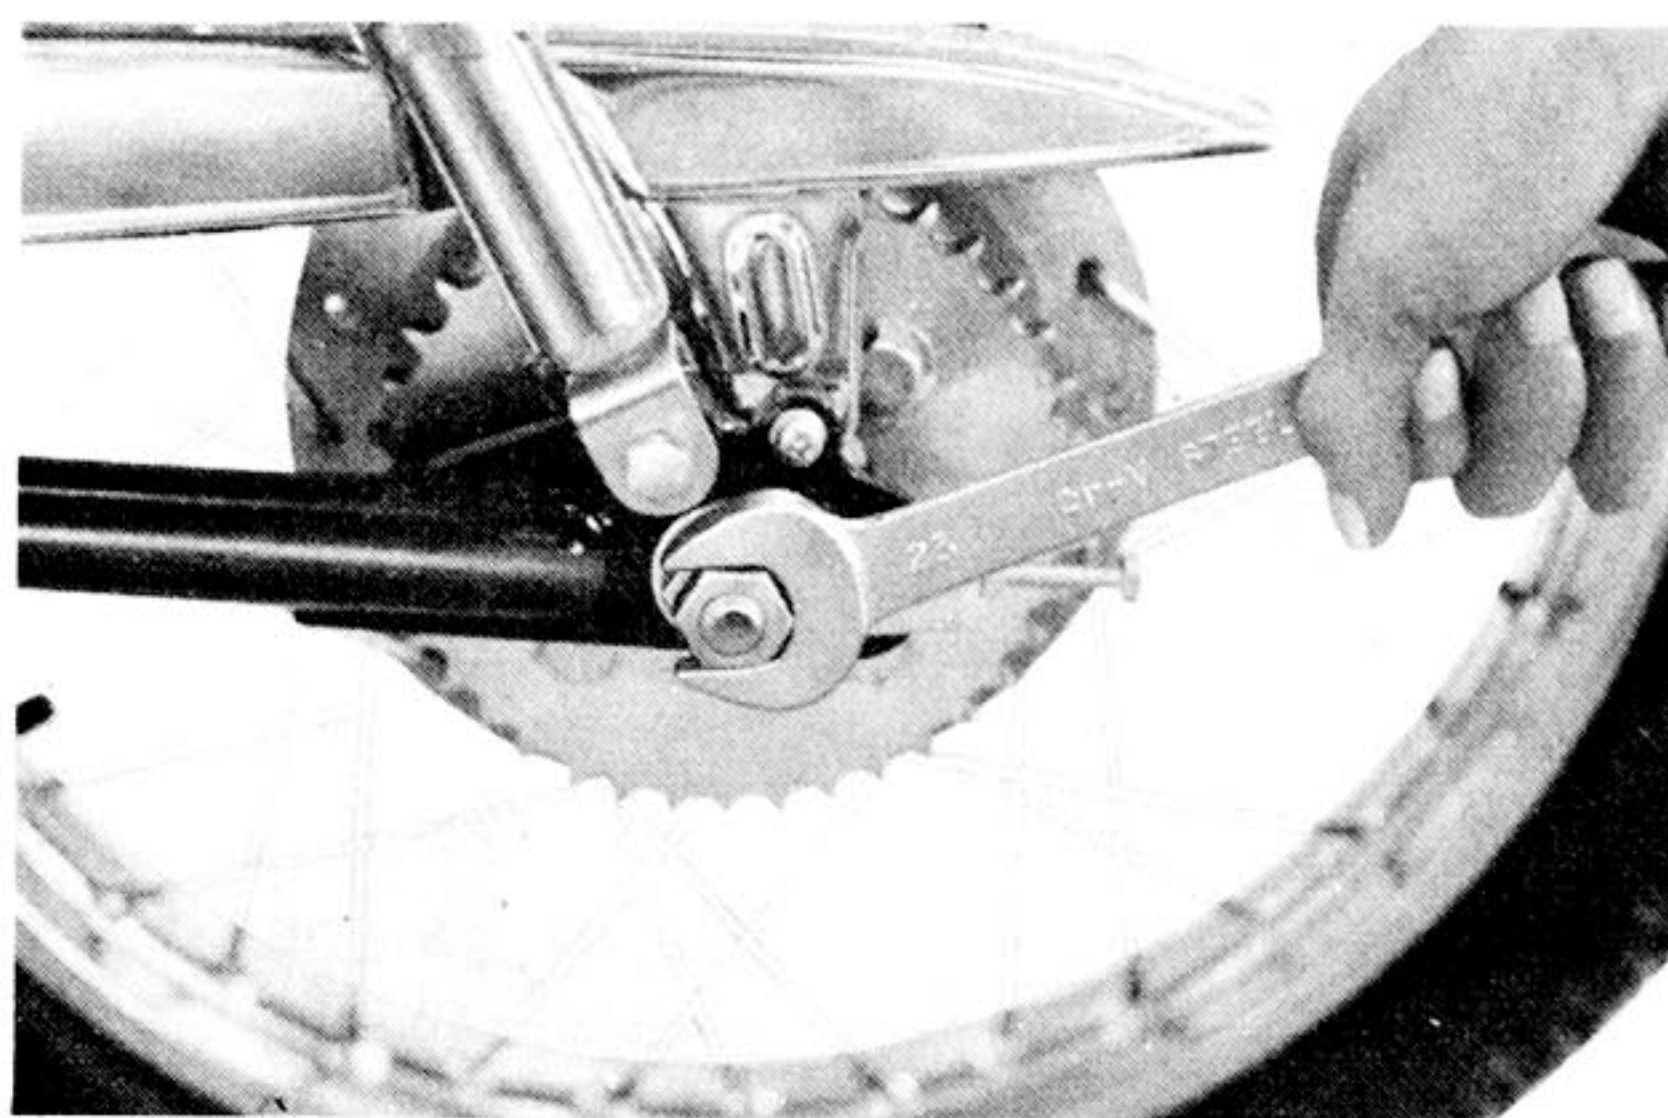

Fig. 5-2-5
(2) Remove the rear wheel shaft, nut, and pull out the shaft. (Figs. 5-2-5 and 6)